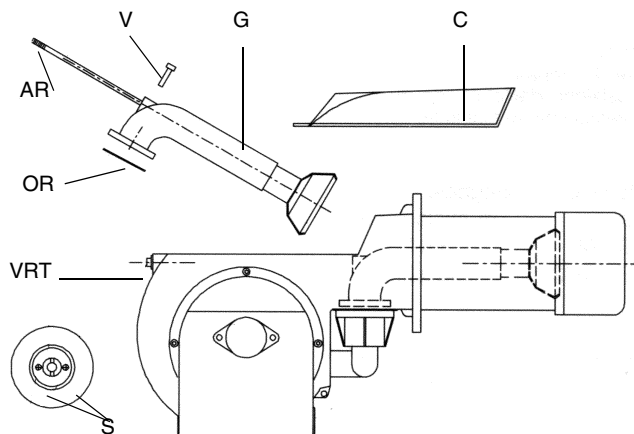

Fig. 32
- Remove, check and clean the combustion head (see Fig. 32)